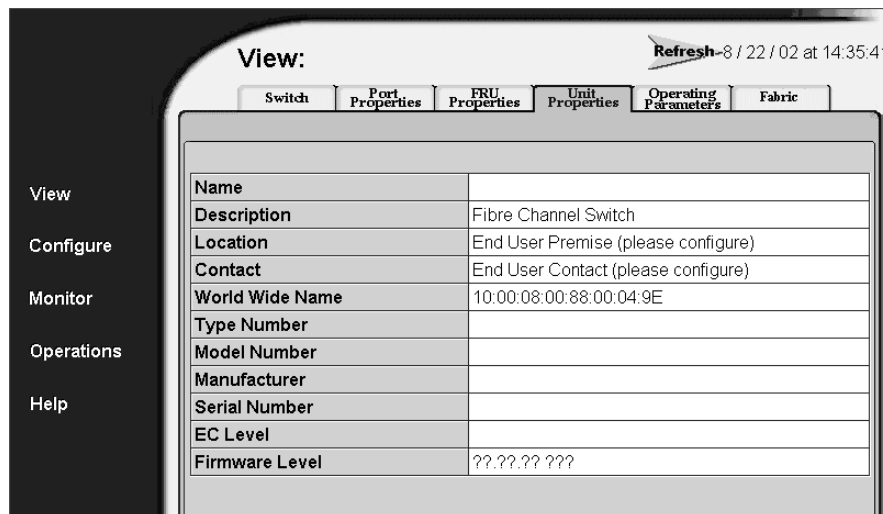

Figure 26: Unit Properties tab view
2. Choose the **Unit Properties** tab. The **Unit Properties** tab view displays (Figure 26) showing product properties.